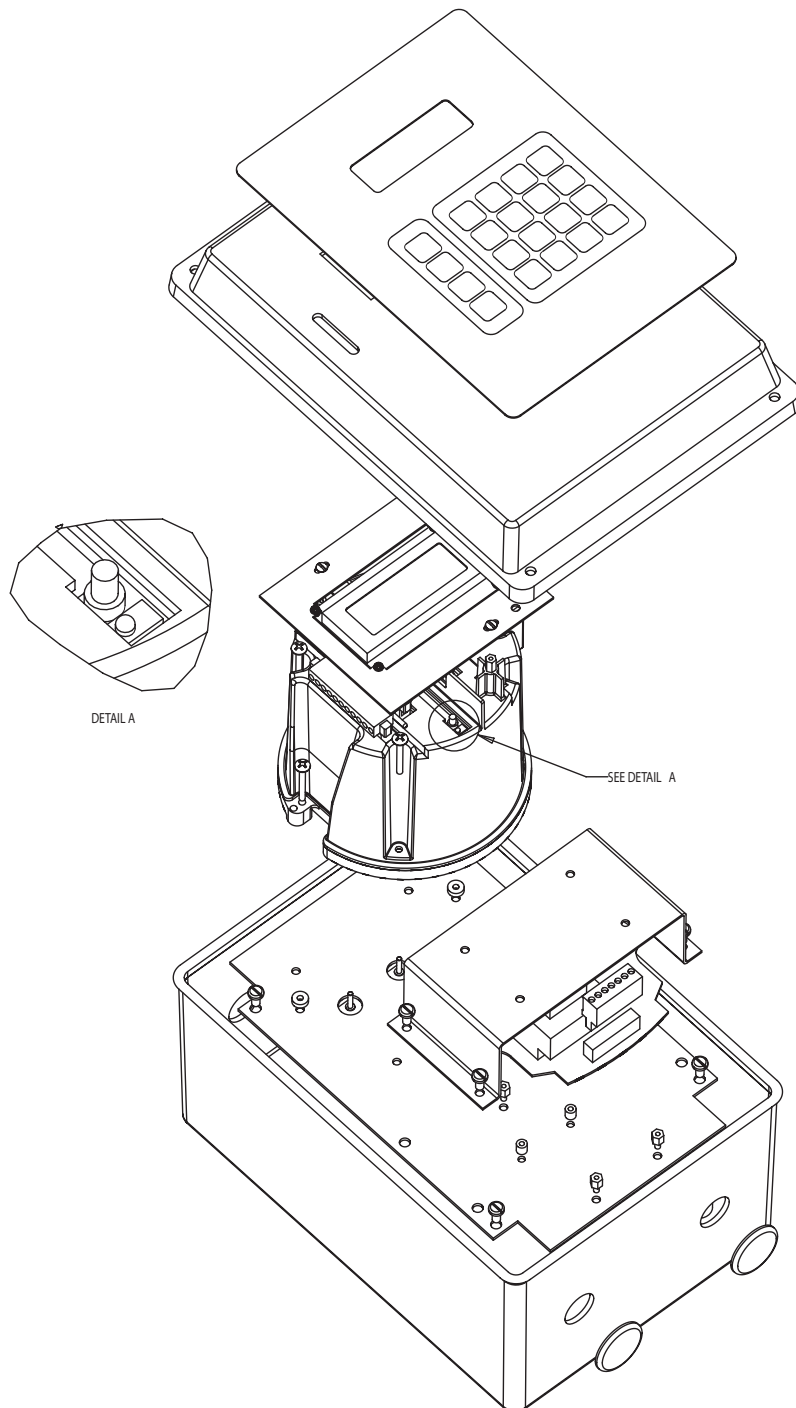

Figure 7.3.1: Location of LED, Zero Button and Optional LCD
The Datamate 2200 transmitter is available with an optional LCD, as shown in Figure 7.3.1. The 4 x 20 digit four line display indicates all process measurements and any alarm warnings.
1. Press and hold the ZERO button until the LED remains on continuously. Figure 7.3.1 shows the location of the ZERO button and LED in the transducer wiring compartment.